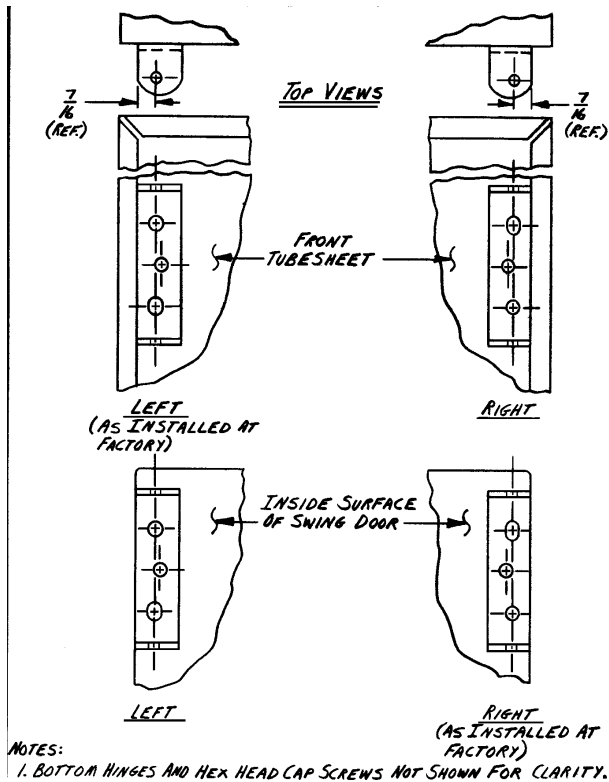

Figure 3: Proper Hinge Bracket Installation
5. Attach 2 hinge brackets & spacers to Tubesheet and 2 hinge brackets to Door on right side of boiler. 3 Holes in each Hinge Bracket must line up with 3 matching holes in Spacer, Tubesheet or Door. See Figure 3. Tighten hex nuts, bolts and screws by hand only.